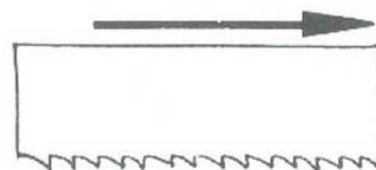

Fig.: 6
- Insert the new blade first between the guides and then onto the rubber-coated pulleys, with the teeth facing as shown in fig.6.